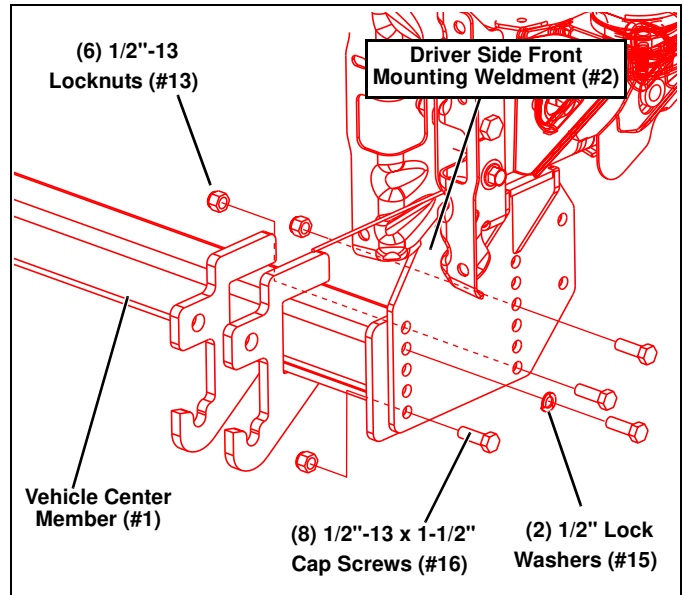

Figure 8
11. Install the Vehicle Center Member (#1) between the Driver Side Front Mounting Weldments (#2 and #3) using (8) 1/2"-13 x 1-1/2" Caps Screws (#16), (2) 1/2" Lock Washers (#15), and (6) 1/2"-13 Locknuts (#13). (See Figure 8.)